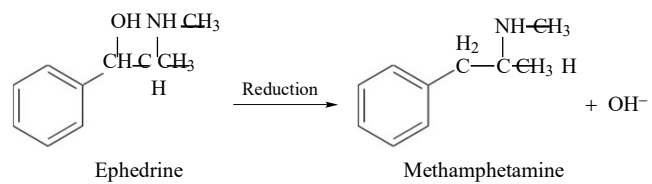

Figure 6 . Reduction reaction of ephedrine to methamphetamine.
- Horizontal ATR sample compartment accessories with three reflections provide sufficient sensitivity to acquire spectra of approximately 400 ng of lysergic acid diethylamide (LSD) as a film cast from chloroform (Figure 6).